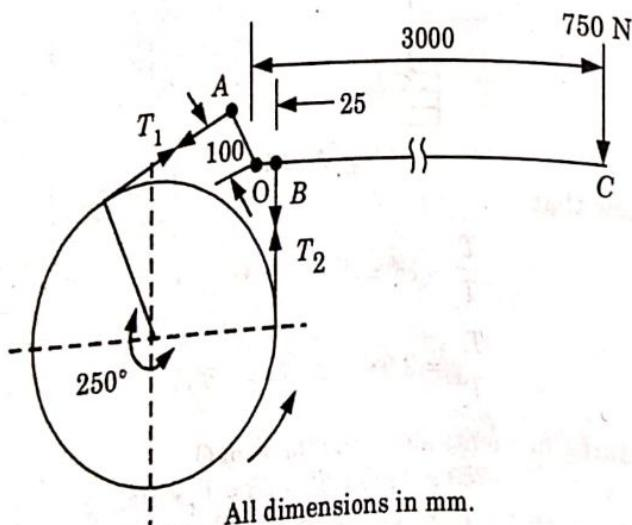

Fig. 5.13.2.
7. We know that, when the drum rotates in anticlockwise direction, the end of the band attached to A will be tight with tension T_1 and end of the band attached to B will be slack with tension T_2 , as shown in Fig. 5.13.2. The ratio of tensions T_1 and T_2 will be same as calculated above, i.e.,